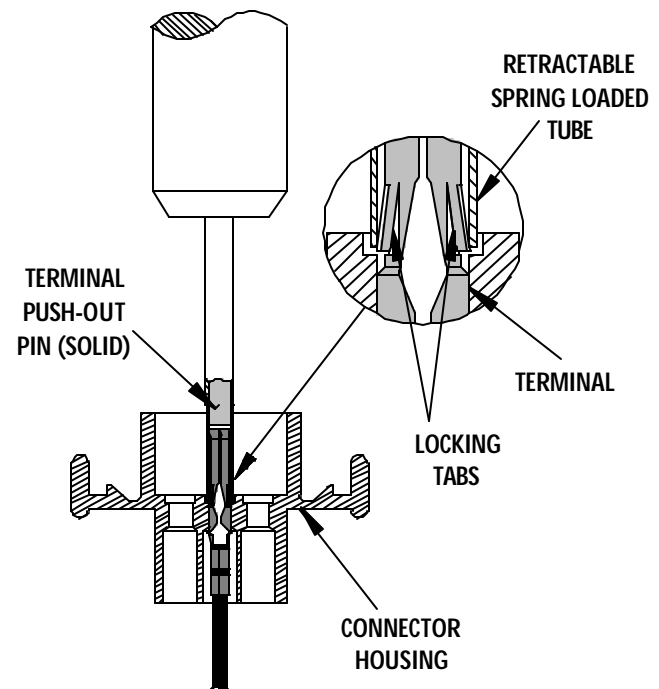

Figure 2
2. The Retractable Spring Loaded Tube must depress the Locking Tabs on the terminal before it contacts the Terminal Push out pin. Rotate Extractor Tool while following above instructions, (See Figure 2).